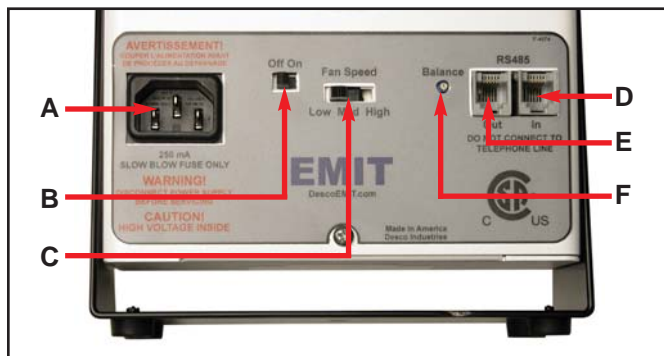

Figure 3. Bench Top Zero Volt Ionizer features and components
- I. Set the fan speed switch on the rear of the unit to the LOW, MED, or HI position (see Figure 3). Higher airflow will result in faster neutralization rates.
The Bench Top Zero Volt Ionizer is an auto-balancing unit. However, tuning or manual adjustment can be accomplished by inserting a small screwdriver or trimmer adjustment tool into the balance adjustment hole located at the rear of the unit (see Figure 3). To increase the output in a positive direction, turn the potentiometer clockwise. To increase the output in a negative direction, turn the potentiometer counter-clockwise.